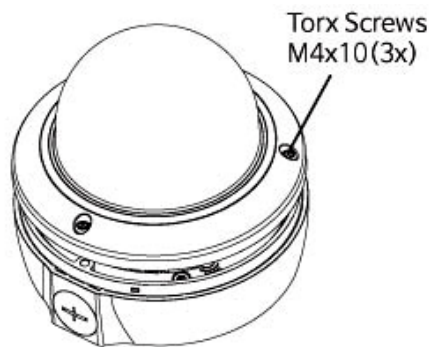

Figure 1
1. Loosen the three torx screws located midway up the front of the housing, leave the screws intact in the front portion (Fig. 1)